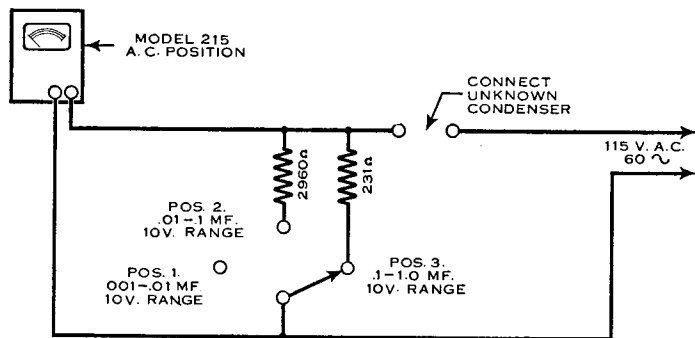

Figure 11 Model 215 Used as Condenser Tester
b. A rough test of comparative capacity of PAPER condensers can be made with the Model 215 by connecting it as shown in Figure 11. The larger the unknown condenser being tested, the smaller its reactance and therefore the higher the reading will be on the A.C. voltmeter.